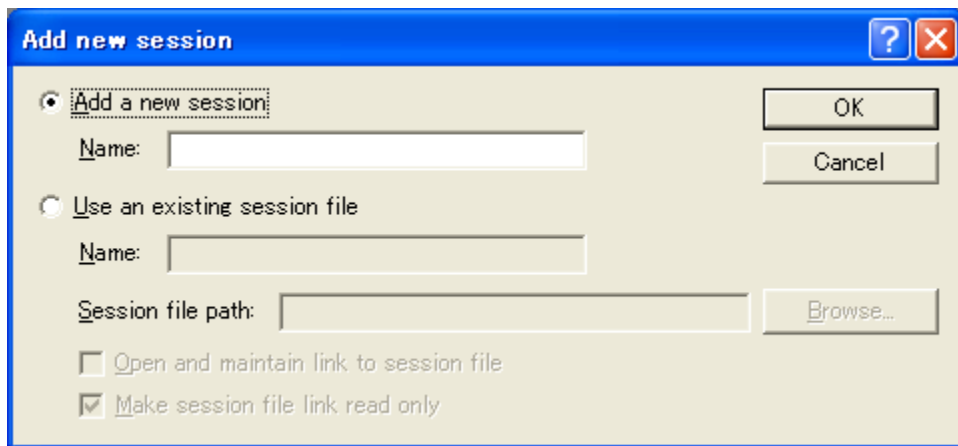

Figure 4.30 [Add new session] Dialog Box
2. Click the [Add...] button to display the [Add new session] dialog box (figure 4.30).